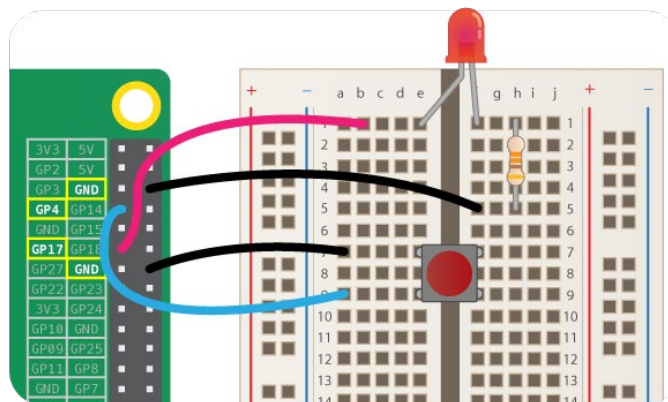

Figure 12 : Wiring Diagram with Button and LED
4. Now physically connect an LED and a Button to pins 17 and 4 respectively (Don't forget to use a resistor to protect the LED) as shown in Figure 12.